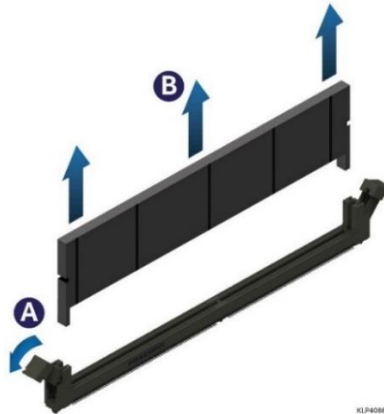

Figure 18. DIMM Blank Removal
1. Remove the DIMM blank from the desired memory slot (see Figure 18)